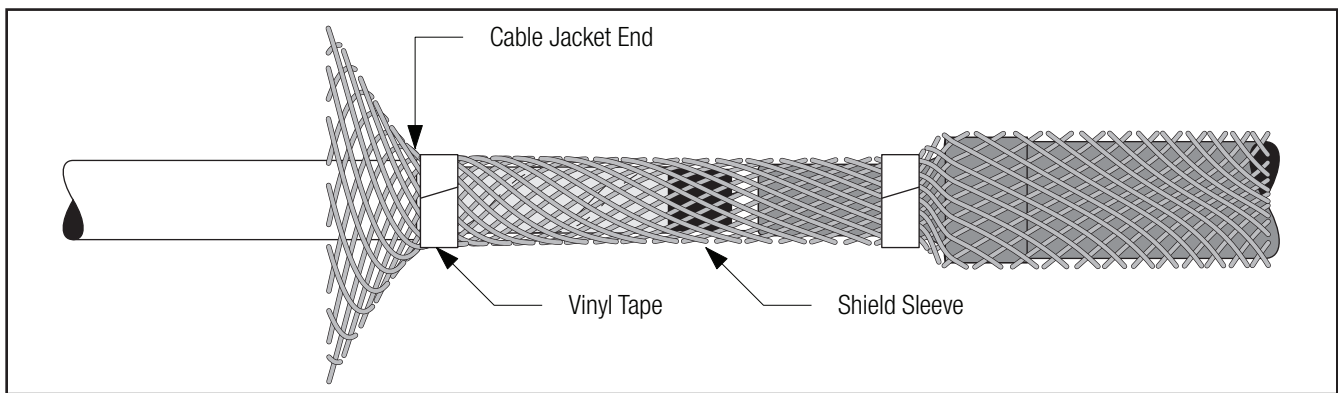

Figure 22
- 6.2.1 Secure sleeve to cable metallic shield next to each cable jacket using two wraps of vinyl tape (*Figure 22*).